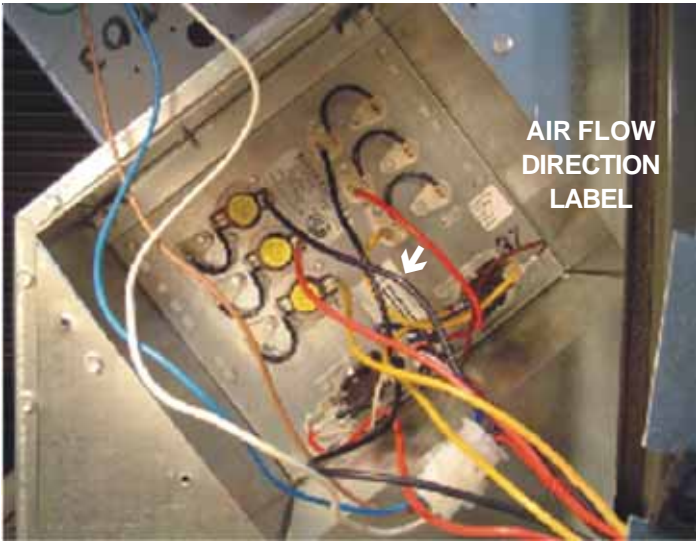

Figure 3
7. Install heater element(s) with the 4 pointed screws included in the unit literature bag. Note the air flow direction label located on the heater element base shown in Figure 3. Orientate the heating element base to match airflow direction on package unit blower assembly.